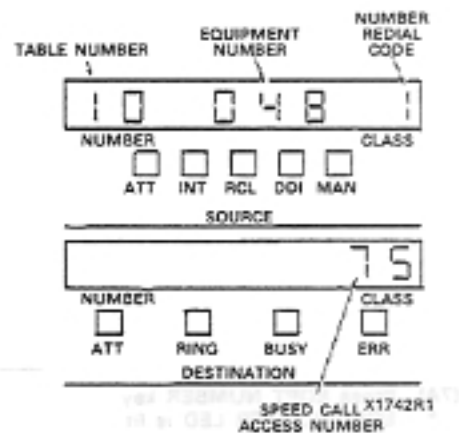

Figure 242-3 Completed Entries Display
* SOURCE display shows digits entered (Figure 242-3) when a subsequent key operation occurs
* DESTINATION display shows dialed digits in first two positions which go to the last two positions when a subsequent key operation occurs (Figure 242-3).